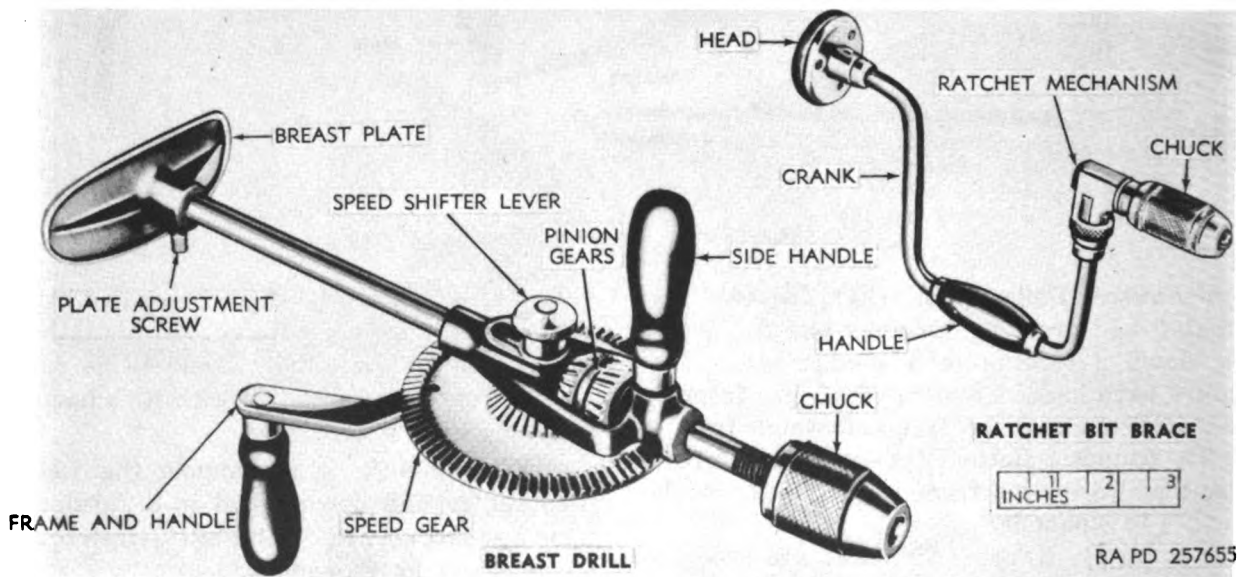
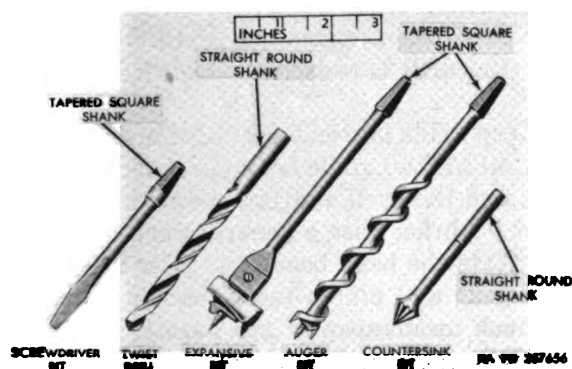

Figure 185. Breast drill and ratchet bit brace.
Figure 186. Types of bits and twist drills used with breast drill and ratchet bit brace.
(fig. 185)
The breast drill and ratchet bit brace (fig. 185) are used to hold various kinds of bits and twist drills used in boring and reaming holes and to drive screws, nuts, and bolts. Some of the various bits and twist drills that are used with the breast drill and ratchet bit brace are shown in figure 186.
a. *Ratchet Bit Brace.* The ratchet bit brace (fig. 185) consists of a head, crank, ratchet mechanism, and a chuck. It has a capacity of holding drills and bits up to and including $\frac{1}{2}$ inch.
b. Breast Drill. The breast drill (fig. 185) has a speed shifter lever which changes the speed of the drill or bit from high to low or the reverse at any time. The center position of the lever locks the gears so that the chuck can be opened or closed. The breast drill consists of gears and pinions arranged on an iron frame. A breast plate attached to the end of the frame is adjustable. The 3-jaw knurled chuck receives bits or round shank twist drills up to and including $\frac{1}{2}$ inch.
a. The breast drill (fig. 185) is used for drilling holes in metal or wood. Use an awl to start holes in wood to help center the bit. Start holes in metal with a center punch to help center the twist drill.